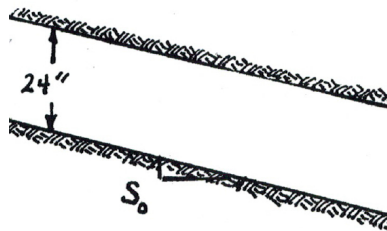

Figure 4. Sewer pipe sketch.
9. (10 points) A 24-inch diameter sewer pipe, with Manning's n of 0.015 is laid on slope $S_0 = 0.01$ as shown in Figure 4.